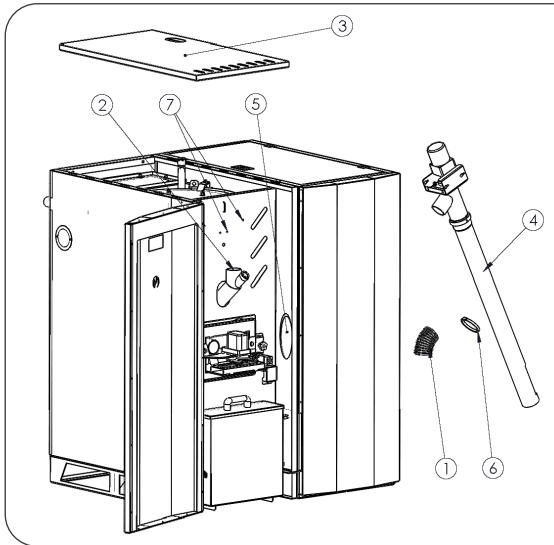

Figure 6.5
- Remove the boiler top cover 3, shown in Figure 6.5.